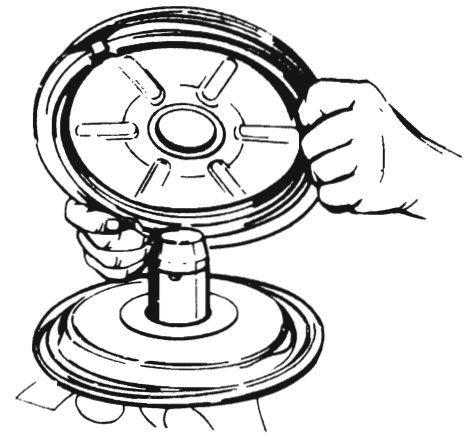

Figure 50-73 Positioning Housing Divider Over Secondary Bearing Protector Tool J-23188
32. Position secondary bearing protector Tool J-23188 on the threaded end of the secondary power piston. See Figure 50-73.